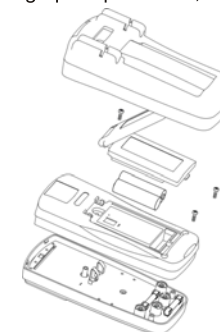

Figure 14
2. Battery or fuse tube replacement (See Figure 14)